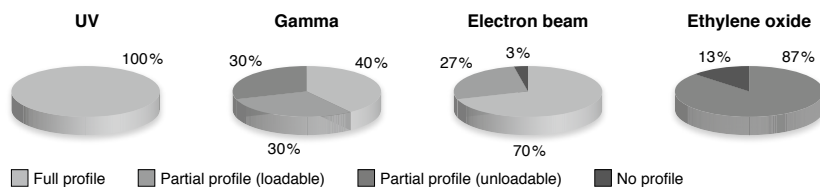

Figure 1 According to Shaw *et al.*, 2008, Comparison of the effects of sterilization techniques on subsequent DNA profiling. *Int J Legal Med* 122: 29–33.
NucleoSpin® cfDNA XS is certified as forensic quality product. Consumables used in forensics need to be treated carefully to prevent DNA contamination. MACHEREY-NAGEL therefore has a stringently controlled production process to avoid DNA contamination of consumables. Further, MACHEREY-NAGEL uses ethylene oxide (EO) treatment to remove amplifiable DNA, which might still be introduced during the manufacturing process. The **NucleoSpin cfDNA XS** products (REF 740900.10/50/250) contain spin columns that are EO treated. This means, DNA of any kind, which might still be introduced into the spin columns during the production process, is inactivated by means of the treatment with ethylene oxide, in order to prevent the generation of accidental human profile by PCR amplification. Ethylene oxide treatment has been shown to be the method of choice to prevent DNA profiles due to DNA contamination (Shaw *et al.* 2008; Figure 1).
Full profile UV Gamma Electron beam Ethylene oxide Partial profile (loadable) Partial profile (unloadable) No profile 100% 30% 40% 30% 3% 27% 70% 13% 87% Figure 1 According to Shaw *et al.*, 2008, Comparison of the effects of sterilization techniques on subsequent DNA profiling. *Int J Legal Med* 122: 29–33.
The recommended standard elution volume is 20 μL . A reduction of the elution volume to 5–15 μL will increase DNA concentration, the total DNA yield is decreased by this reduction however. An increase of the elution volume to 30 μL or more will only slightly increase total DNA yield, but reduce DNA concentration. Figure 1 gives a graphic description of the correlation between elution volume and DNA concentration to help finding the optimized elution volume for your individual application.